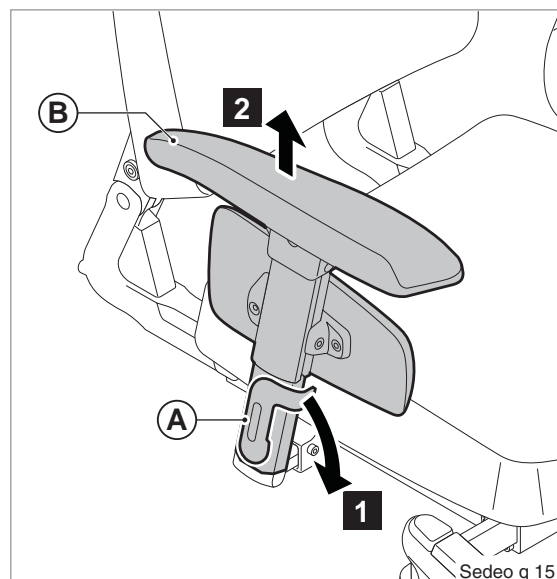
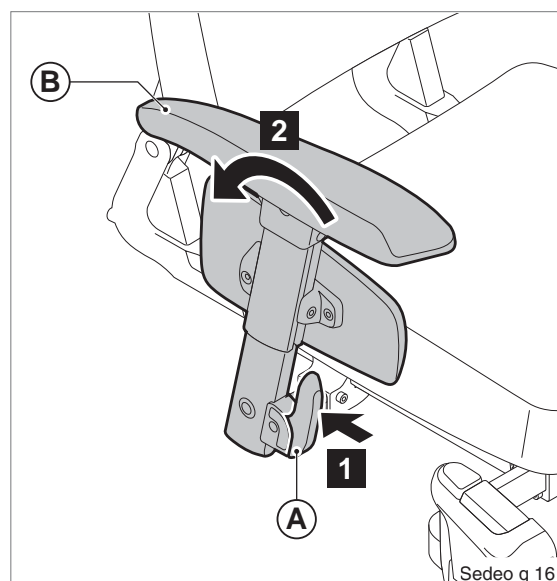

Figure 9
Figure 10
1. Flip up (A).
**Sideways transfer****Removing the armrest assembly (figure 9)**
1. Tip (A) downwards.
2. Remove (B).
**Folding back the armrest (figure 10)**
1. Press (A).
2. Fold (B) to the rear.